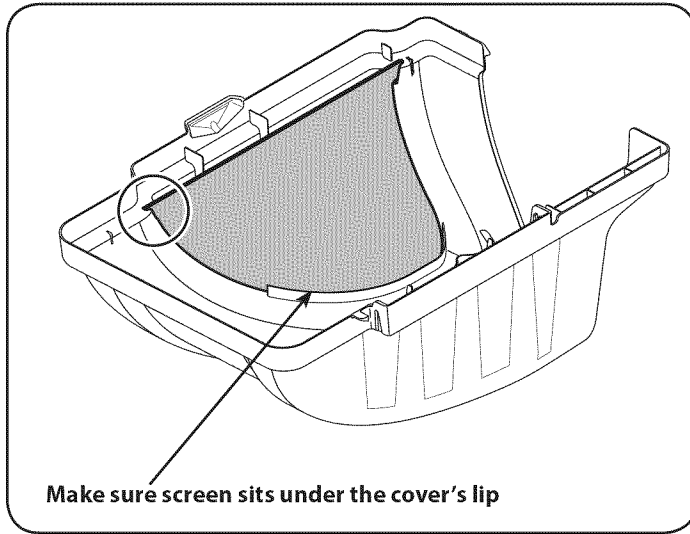

Figure 8
10. Clip in the other side of the screen by flexing the screen and pushing it down into the other corresponding cutout hole. See Figure 8.